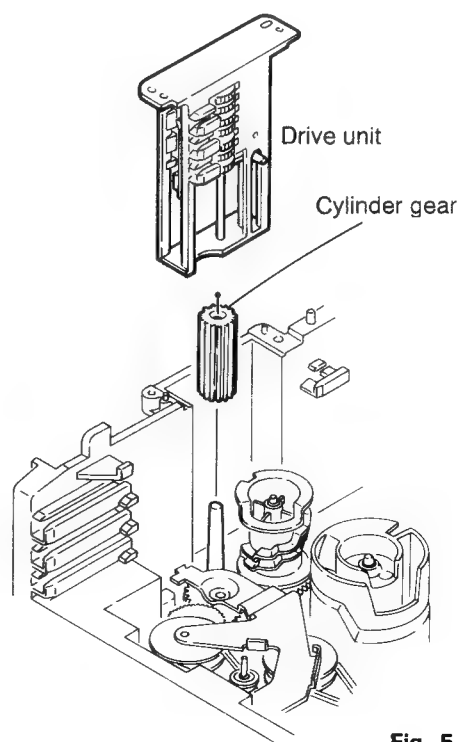

Fig. 5-31
3. Pull out the drive unit and cylinder gear (See Fig. 5-31).